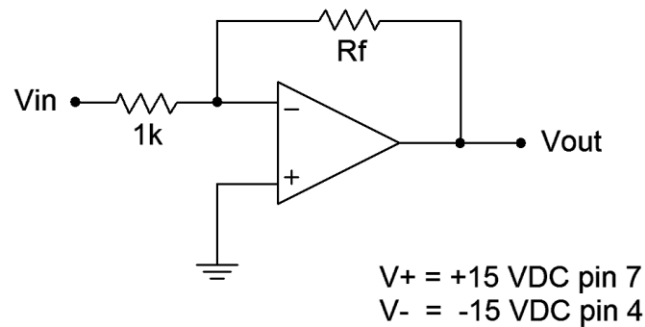

Figure 1
1. The voltage gain of the inverting amplifier can be determined accurately from the feedback resistors R_i and R_f . Calculate the voltage gains for the amplifier of Figure 1 for the R_f values specified, and record them in Table 1.
2. Assemble the circuit of Figure 1 using the 4k7 Ω resistor.